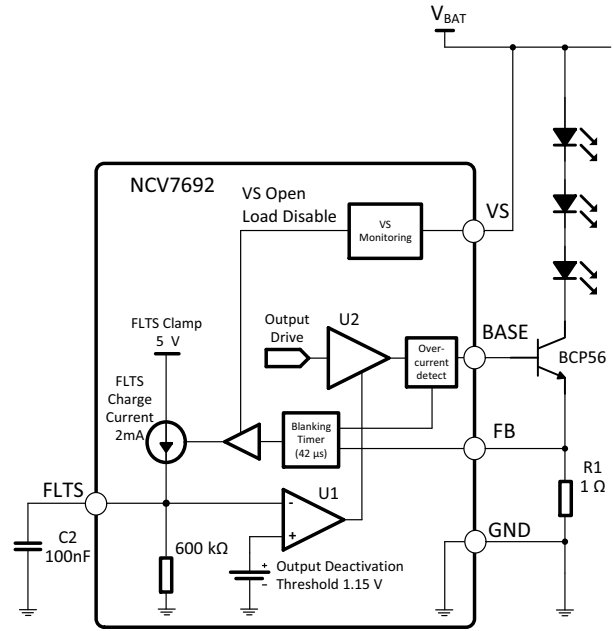

Figure 5. Open Load Detection Circuitry
The timing for open load detection is programmed using the FLTS pin. The NCV7692 device regulates a 152 mV reference point (Figure 5 on the feedback pin (FB)). When the voltage decreases (half of the FB Regulation Voltage) or the base current reaches the internal 25 mA (typ) limit for $42 \mu\text{s}$ the timer associated with the FLTS pin starts by charging the capacitor with a 2 mA current source. When the voltage on FLTS exceeds the output Deactivation Threshold (1.15 V (typ)), the BASE pin is pulled low and is held low by an internal pulldown resistor.